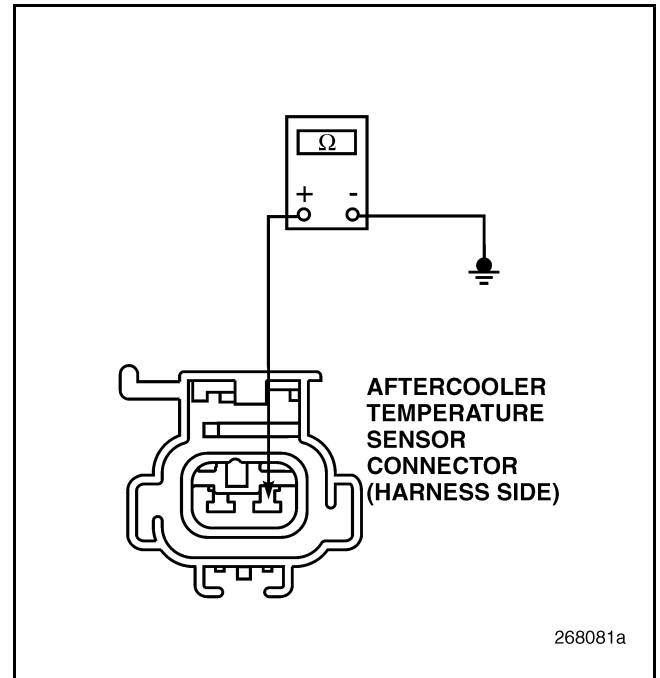

Figure 805
4. Check for continuity between pin 1 of the AOT Sensor harness connector and a good ground (see Figure 805).